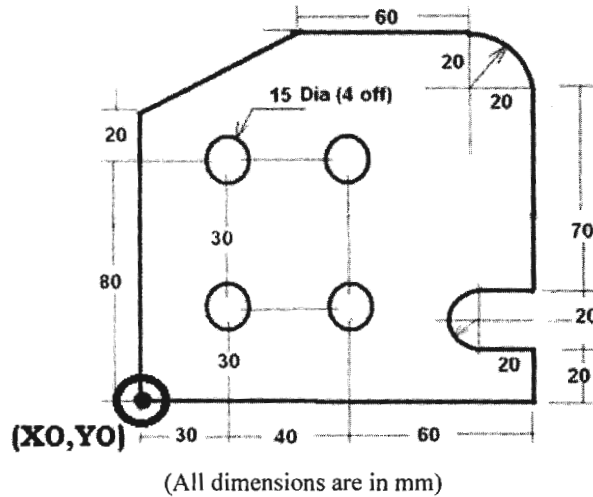

Fig.2
b) Write a CNC program using G and M codes for contouring a component. Also make peck drill of 15 mm diameter hole, as shown in fig 2. Assume suitable data for speed, feed and depth of cut. [10]